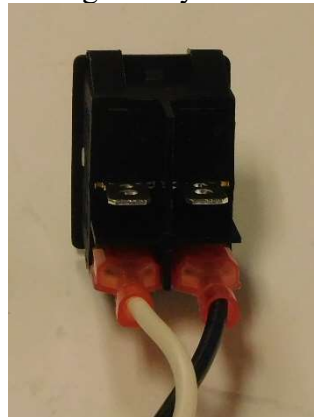

Figure 31-Installing power wires on the switch
9. Starting with the switch outside the chassis, push the FASTONs on the bottom switch terminals as indicated in Figure 31. The black or white wire may be on either side of the switch, so long as they both attach to the *bottom row* of contacts.